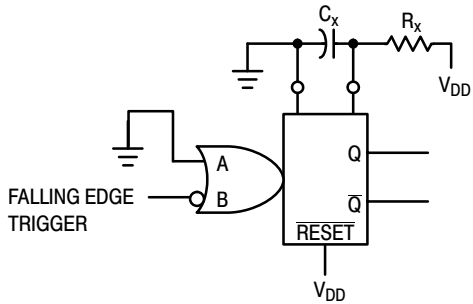

Figure 9. Use of a Diode to Limit Power Down Current Surge
6. If  $C_X > 15 \text{ } \mu\text{F}$ , Use Discharge Protection Diode  $D_X$ , per Figure 9.